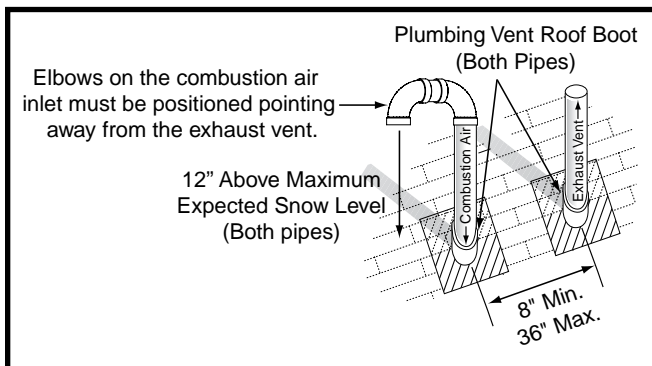

Figure 10. Vertical Vent Termination
Termination spacing requirements from the roof and from each other are shown in Figure 10 (page 12). The roof penetration must be properly flashed and waterproofed with a plumbing roof boot or equivalent flashing. Vent and combustion air piping may be installed in an existing chimney which is not in use provided that:
- The termination clearances shown in Figure 10 are maintained.